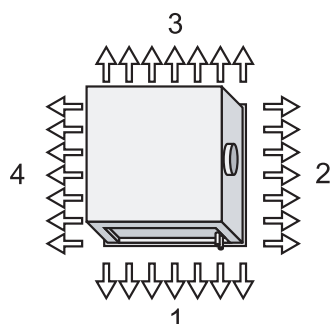
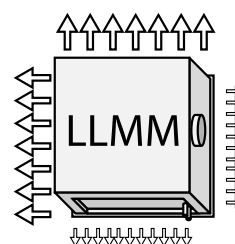

Figure 1. Top view nozzle setting singlemodule unit side 1-4.
Figure 2. Example of nozzle setting for a single-module unit - LLMM
* All four sides of the unit can be adjusted individually. The description of the nozzle setting follows the order shown in figure 1. See example shown in figure 2.